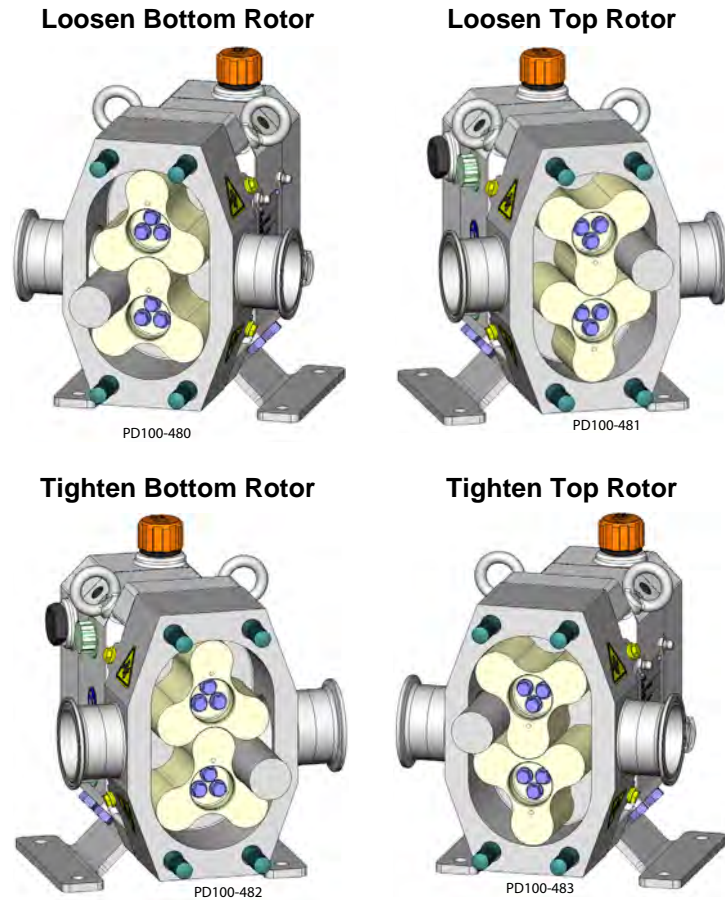

Figure 32 - Rod Positions for Blocking
1. Use a rod made of a non-marring material to block the rotors and prevent them from turning. A plastic rod works well for this purpose. Table 5 lists rod diameters by model for rotor blocking. Always block the rotor against the body, not against the opposite rotor. See Figure 32.